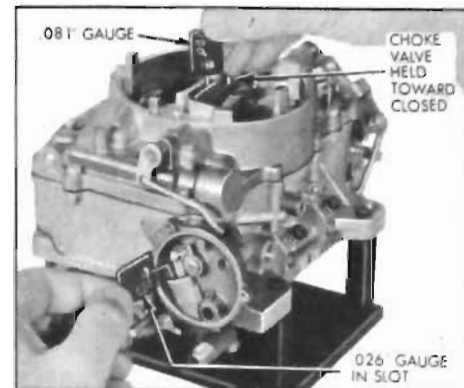

Figure 3-53—Choke Piston Adjustment
1. Adjust Choke Piston Linkage. Inside choke piston bore on left side, about 1/2 inch down, is a small slot. Insert 1/8 inch bent end of .026" wire gauge into upper end of slot; then close choke valve by pressing on piston lever in choke housing until piston stops against gauge. Check opening between upper edge of choke valve and inner wall of air horn using .081" Wire Gauge. See Figure 3-53. If adjustment is required,